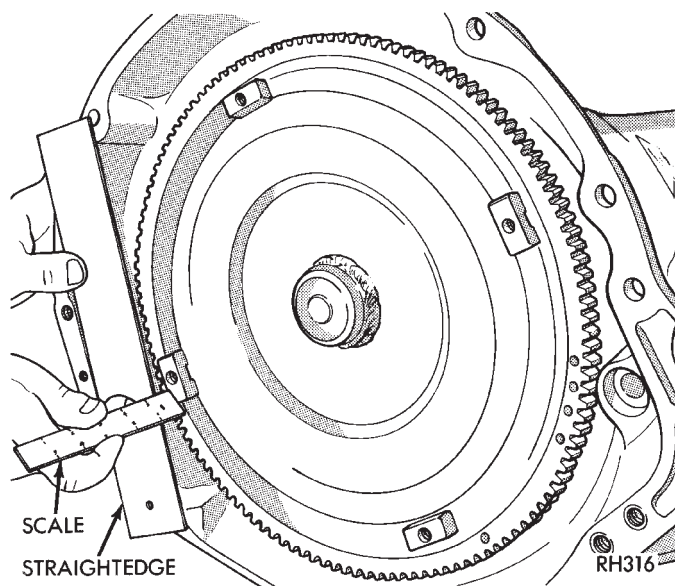

Fig. 18 Typical Method Of Checking Converter Seating
(1) Check torque converter hub and hub drive notches for sharp edges burrs, scratches, or nicks. Polish the hub and notches with 320/400 grit paper and crocus cloth if necessary. The hub must be smooth to avoid damaging pump seal at installation.
(2) Lubricate converter drive hub and oil pump seal lip with transmission fluid.
(3) Lubricate converter pilot hub with transmission fluid.
(4) Align converter and oil pump.
(5) Carefully insert converter in oil pump. Then rotate converter back and forth until fully seated in pump gears.
(6) Check converter seating with steel scale and straightedge (Fig. 18). Surface of converter lugs should be 1/2 in. to rear of straightedge when converter is fully seated.
(7) Temporarily secure converter with C-clamp.